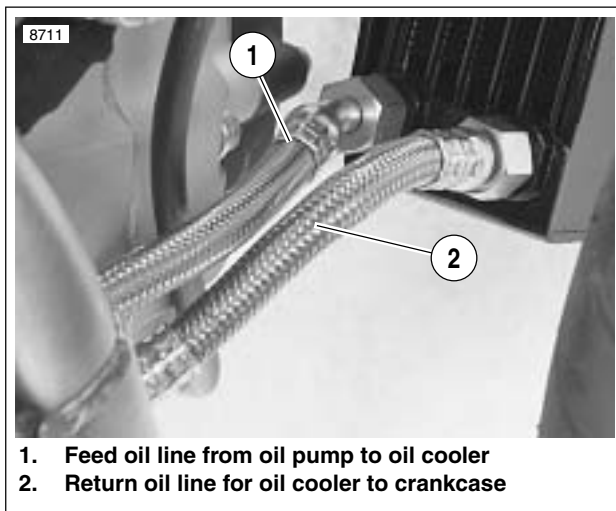

Figure 3-4. Oil Line Connections at Oil Cooler
15. See Figure 3-4. Disconnect oil lines at oil cooler only.